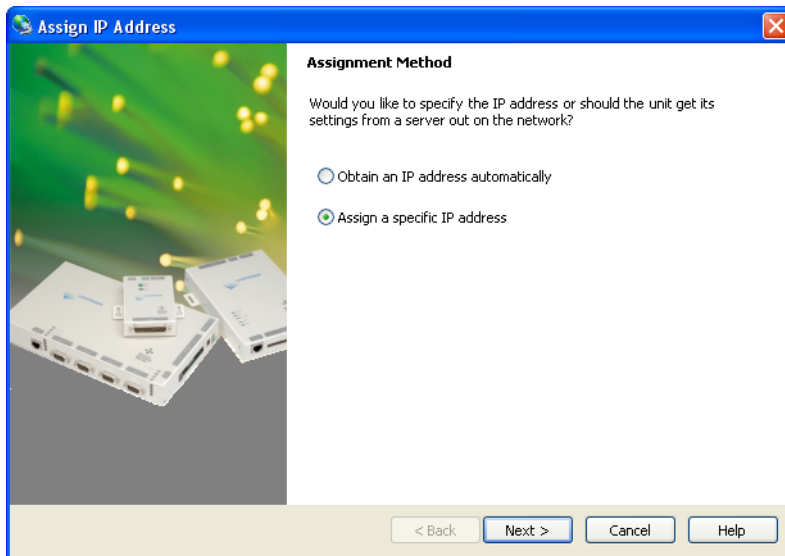

Figure 21: Assignment Method Window
5. Click on  to assign an IP address to the LAN-505. The Assignment Method Window appears (see Figure 21 on page 16).